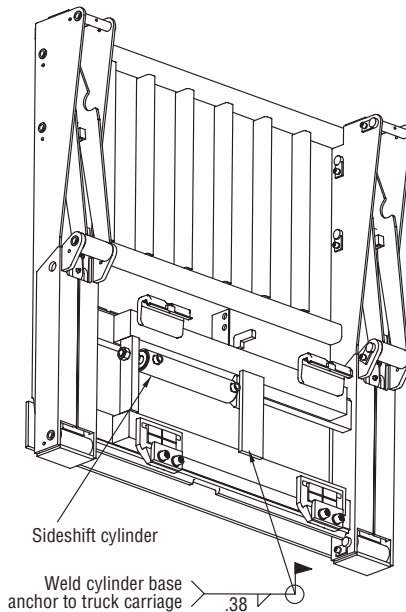

Figure 4-4, Cylinder Anchor (JLSB)
4. Tack weld cylinder rod anchor to carriage weldment and hook mounting bar (right hand side). (Figure 4-4)